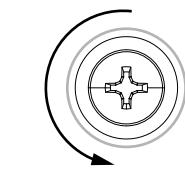

Fig 4b - Loosen screws
- 4.2 Partially loosen the three mounting screws and push the sled base firmly against the rip fence. Make sure the sled is square (90°) to the rip fence and retighten each mounting screw [Fig 4b–4d].